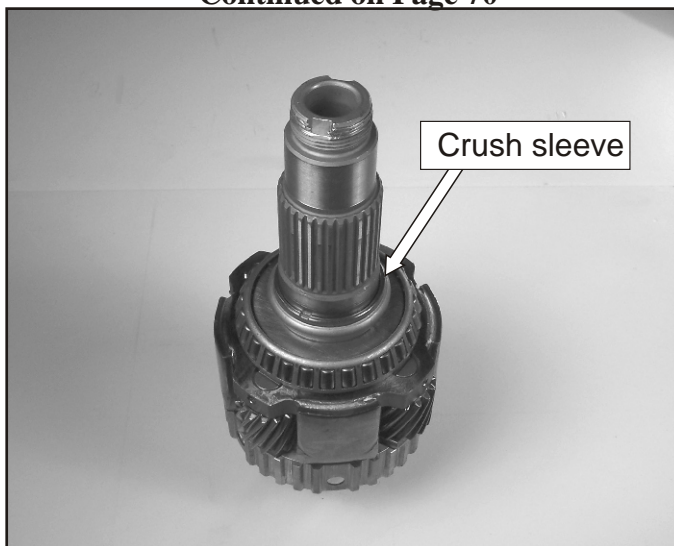

Figure 164
- 109. Install a new crush sleeve onto the shaft. See Figure 164.